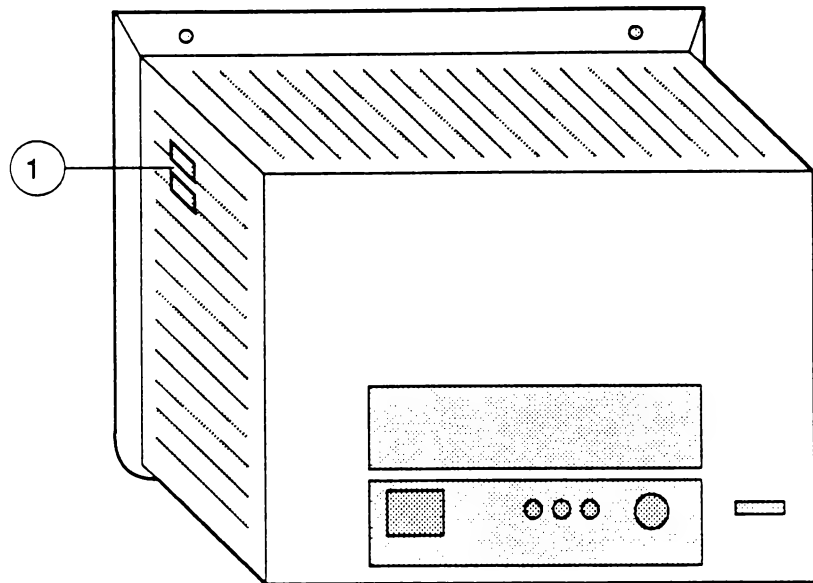

FIGURE 1
- 5.3 Rear Cover Assembly (Figure 1)
The Apple® Monochrome Monitor is a 12-inch CRT display monitor that is used with the Apple II family of computers. The power switch and the contrast control for the Monochrome Monitor are shown in Figure 1, #1. The LED on the front case shows that the power is on.